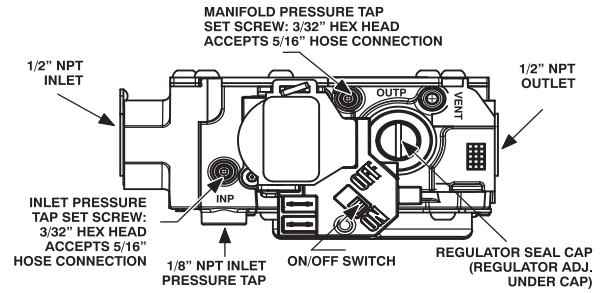

Fig. 8 – Single-Stage Gas Valve with Tower Pressure Ports
1. Refer to Fig. 8.
3. Remove cap that conceals the adjustment screw for the gas-valve regulator. See Fig. 8.
4. Turn the regulator adjustment screw one (1) full turn out. This will decrease the manifold pressure closer to the natural gas set point.
7. Turn the adjusting screw clockwise (in) 10.5 full turns. This will increase the manifold pressure closer to the natural gas set point. See Fig. 8.
2. Verify manometer is connected to inlet pressure tap on gas valve. See Fig. 8.
- On some models, apply pipe dope sparingly to the 1/8-in. (3 mm) NPT pipe plug and install in the 1/8-in. (3 mm) tapped inlet-pressure tap opening in the gas valve. Or, on some models, tighten set screw on inlet tower pressure tap with a 3/32-in. hex wrench. See Fig. 8.
- Attach manometer to manifold pressure tap on gas valve. See Fig. 8.